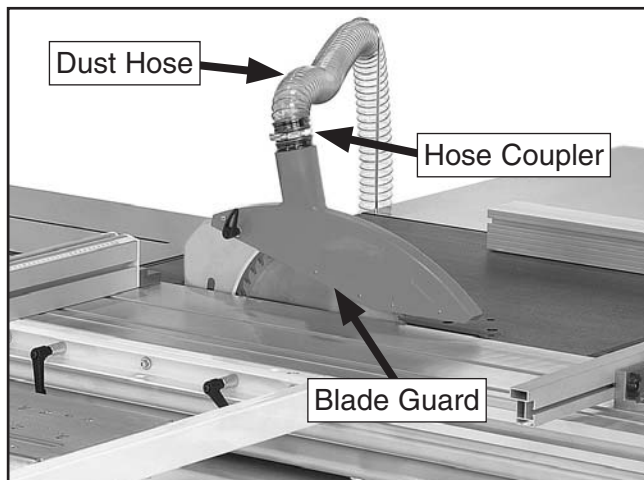

Figure 34. 2½" dust hose connected.
- 30.** Attach the included 2½" dust hose to the hose coupler with the 2½" hose clamp, then slide the coupler into the blade guard, as shown in **Figure 34**.